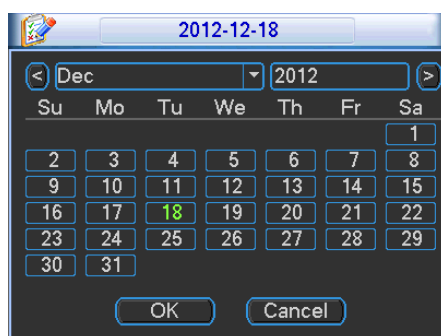

Figure 4-25
- Holiday setting: Click it you can see an interface shown as in Figure 4-25. Here you can set holiday date. Please go to the Holidays Period interface to set the holiday date record setup.